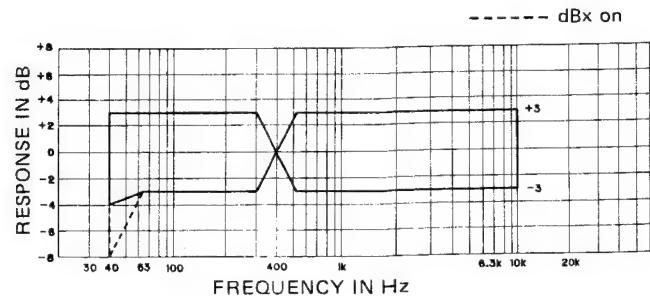

Fig. 10-10 Overall Frequency Response
- Vary the input signal frequency over a range of 40 Hz to 10 kHz and record the frequencies, and then playback the signals just recorded. The playback output levels should be as shown in Fig. 10-10.